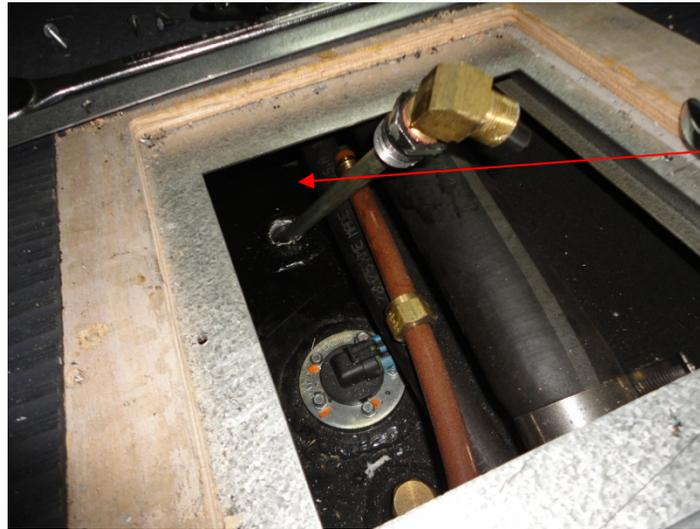

Figure 4
- 11) Remove the main pick-up tube. Loosen the pickup tube in the tank using a pair of pliers or a 15/16" wrench on the head of elbow. Next, turn the tube at an angle to remove as shown in Figure 4.